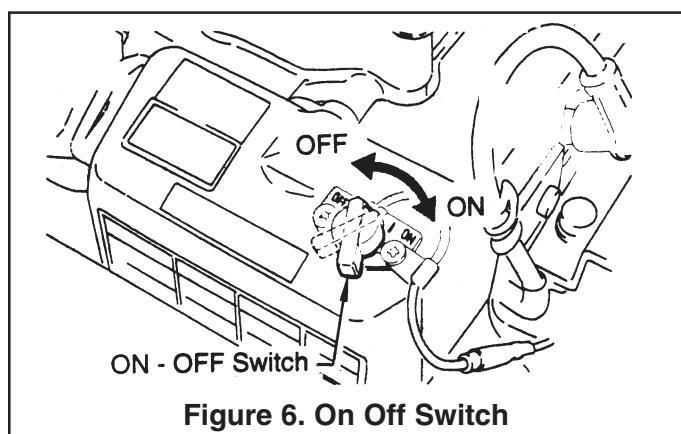
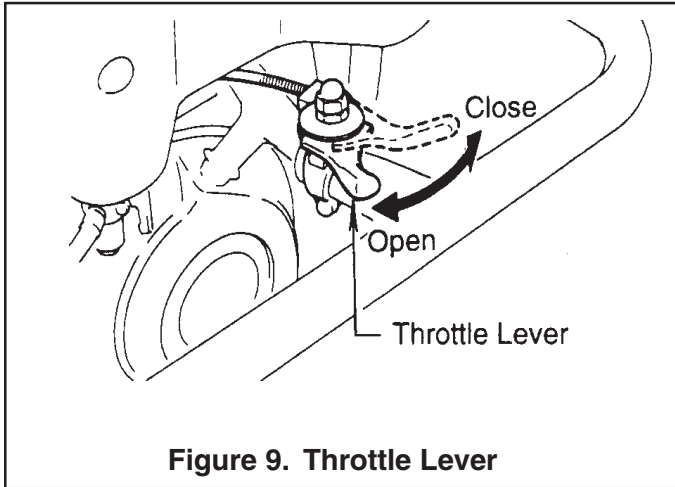

Figure 6. On Off Switch
Figure 9. Throttle Lever
2. Set the engine ON/OFF switch (Figure 6) to the "ON" position (start).
1. To start the rammer tamping action, move the throttle lever (Figure 9) quickly from **IDLE** (close) to the **FULL OPEN** position. **DO NOT** move the throttle lever slowly as this may cause damage to the clutch or spring.
1. Move throttle lever quickly from the **FULL OPEN** to **IDLE** position (Figure 9) and run the engine for three minutes at low speed. After the engine **cools**, turn the engine start/stop switch to the "**STOP**" position (Figure 6) until engine comes to a complete stop.